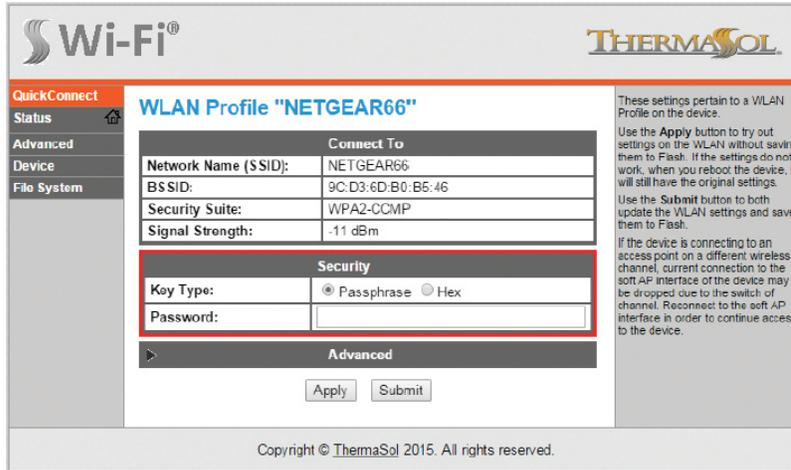

Figure 20: WLAN Wi-Fi password
5. Enter your Wi-Fi access point password or hex key in the space provided and select submit as shown below in Figure 20